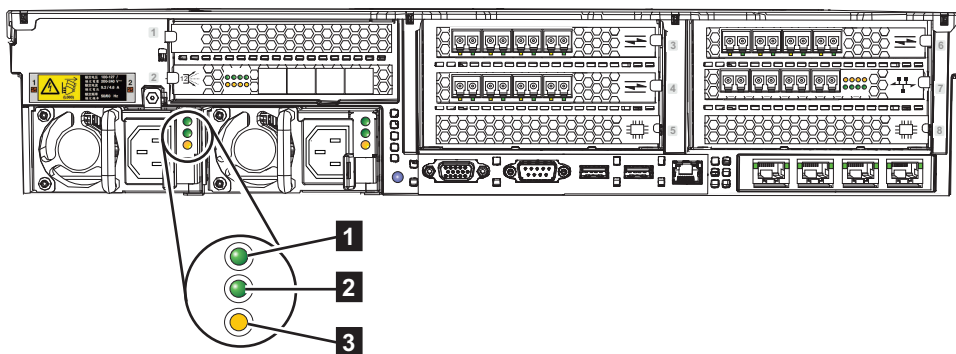

Figure 140. 2145-SV1 AC, DC, and power-error LEDs
5. Verify that the AC power LED (**1**) and the DC power LED (**2**) are lit. Each power supply has a set of indicator LEDs, as shown in Figure 140. In this example, the figure shows the LED indicators for power supply 1.